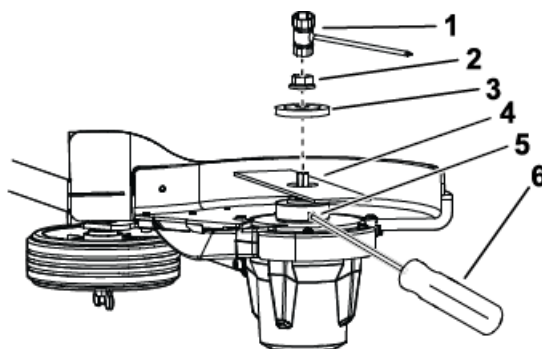

Figure 14
2. Secure the blade so that it cannot spin by inserting a screwdriver (not included) to the slot in the edger head as shown in Figure 14. Note: You may need to turn the blade to find the slot
4. Remove the blade washer and the old blade (Figure 14).